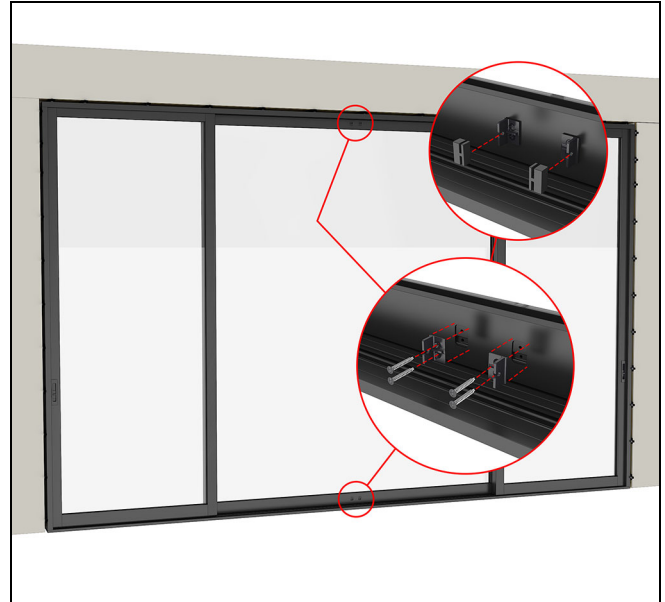

Figure 156 XOX Interior view
9. Install the bumper brackets on the rails of the (K) stationary panel. Orient the brackets so the tabs are
pointed left (as seen from the interior). There is a mating surface on the back side of the bracket that fits into the panel rout. Fasten with #10 x 1 1/2" (38) Phillips head screws. Insert the rubber bumpers over the brackets with the wider section facing left. If rails have two sets of bumpers, orient them in opposing directions. See Figure 156.